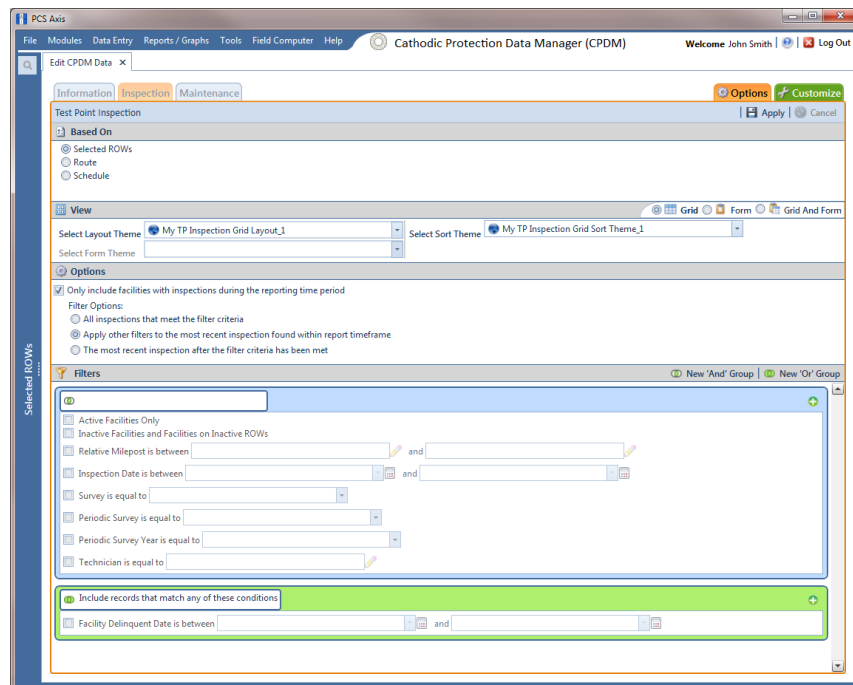

Figure 7-119. Options
- 14 To apply one or more filters to the data entry grid (Figure 7-119):